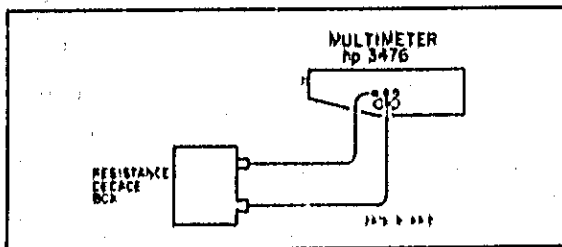

Figure 5-2. Ohms Accuracy Test.
b. Remove the short and connect the equipment as shown in Figure 5-2. Use large wire and connect the decade box as close as possible to the Multimeter. When checking the 11,000  $k\Omega$  range, connect the COM terminal to a good earth ground.